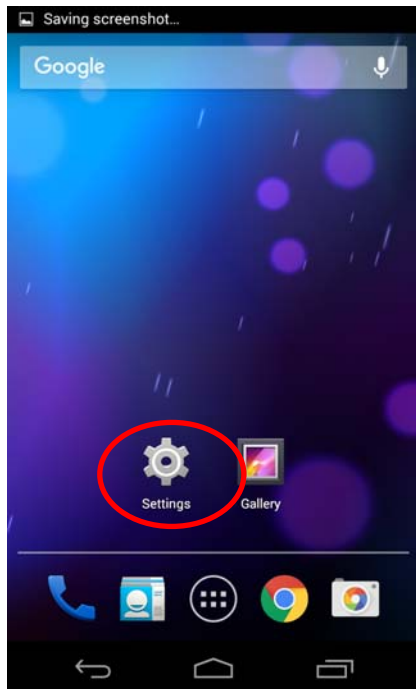

Figure 18
2.1 Enter into the “Settings” of system, as shown in Figure 18.
3.1 Enter into the “Settings” of the system, as shown in Figure 18.